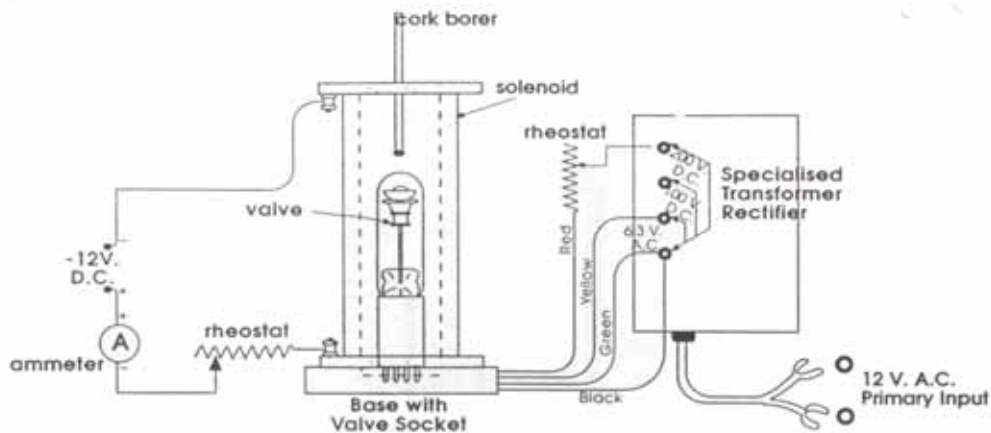

figure 1
- Set up the equipment in two separate circuits, as shown in figure 1. One circuit, which consists of the rheostat, ammeter and power pack, is used to supply a uniform magnetic field in the centre of the solenoid. The other circuit consists of the valve and its power supply, set up in the following way:
- Connect the red and black leads across the 200 volt terminals of the power supply – the red is connected to the anode and goes to the positive terminal, while the black is connected to the earth or negative terminal. This supplies the accelerating voltage (V) to the electrons.